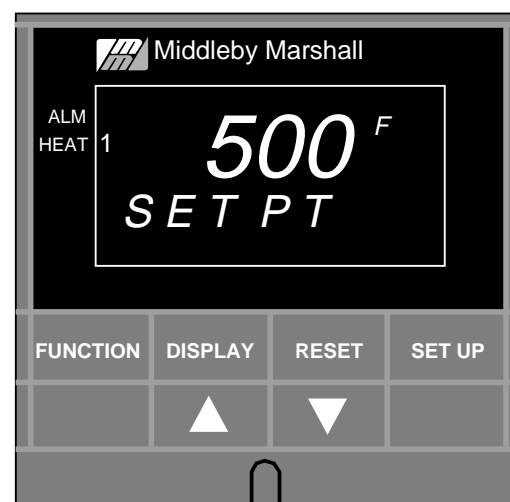

Figure 3-11
- b. HEAT - The HEAT window will display either a "1" or will be blank. Refer to Figure 3-11.